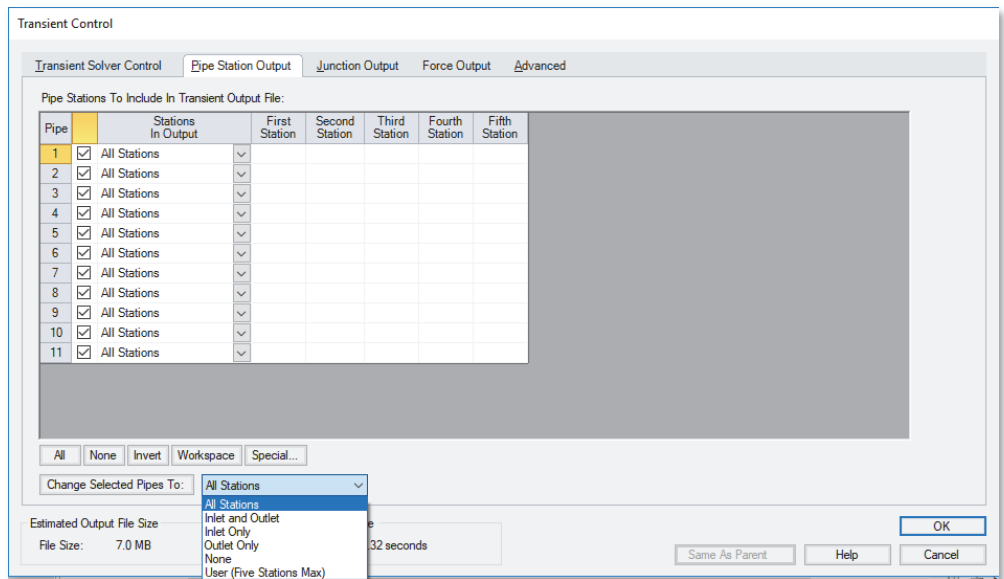

Figure 3.3 Transient Control window pipe station selection
4. To minimize run time and output file size, the table on the Pipe Station Output tab uses “Inlet and Outlet” for all pipes by default. This will cause the output for only the inlet and outlet station of each pipe to be saved to file. Data can be saved for all pipe stations or only selected stations. Click the All button to select all the pipes in the table. Drop down the list next to the “Change Selected Pipes To” button and select “All Stations”. Then click the “Change Selected Pipes To” button (Figure 3.3). This will save all pipe station data for all pipes, which will be useful later for animation purposes